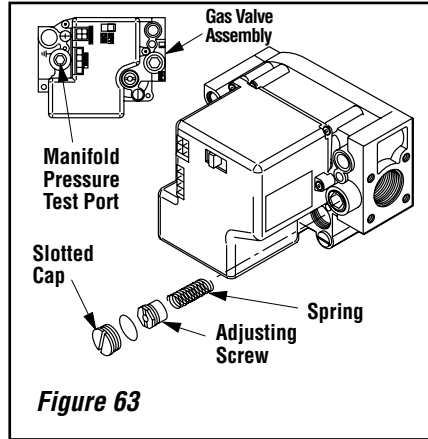

Figure 63
Step 7. Honeywell Electronic Valves - See **Figure 63** and the instructions provided with the kit. Remove the slotted cap screw, o-ring, pressure-regulating adjusting screw and spring. Retain all parts for possible later use. Install new components from the kit. Black cap and red spring for propane gas appliances. Silver cap and stainless steel spring for natural gas appliances.